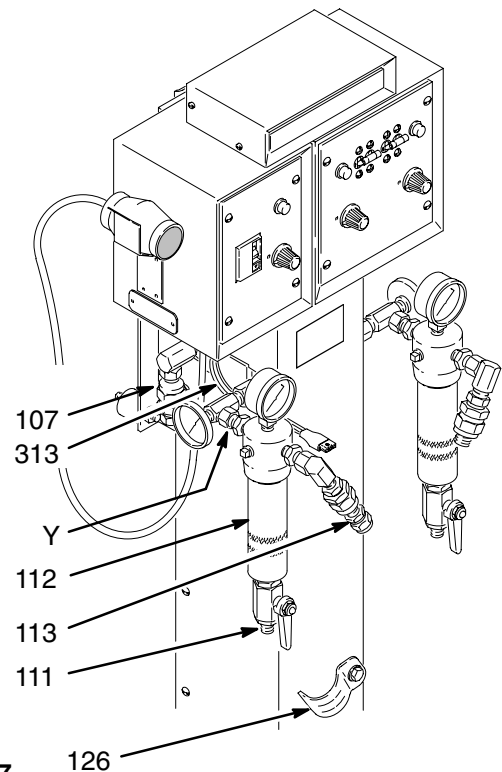

Fig. 7
1. Do not install any fluid shutoff device at the fluid outlet (Y) of either the heater or filter (112). See Fig. 7.
3. To reduce strain on the hose near the hose couplings, route the heated hoses through the clamp (126) on the front of the heater.
1. Connect the fluid supply hoses from the displacement pump to the proper fluid inlet union (107) on each side of the heater. See Fig. 7.
2. Connect the fluid dispense hoses of the heated hose assembly to the fluid outlet union (113) of each fluid filter.
4. Connect the heat tape connector of the heated hose assembly to the heated hose control box cable (313). See Fig. 7.